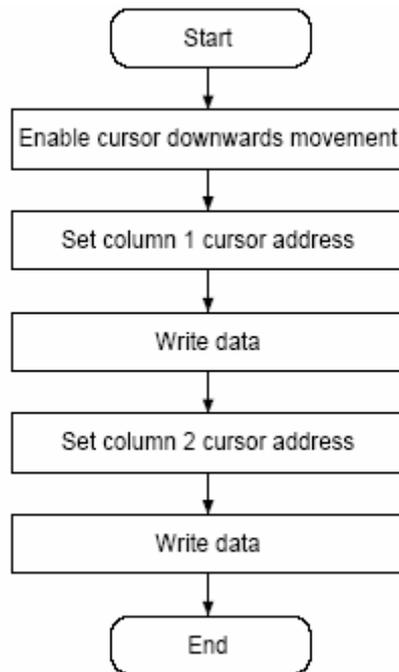

Figure 69. 16 X 16-dot display flowchart
2. The microprocessor sets the display address and writes to the VRAM. The flowchart is shown in Figure 69.